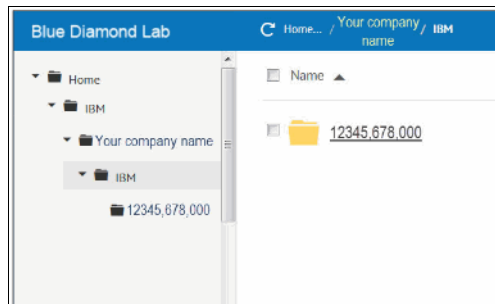

Figure 8-23 Sub-folder with PMR number
5. Create a sub-folder with the name of your PMR/Case number (Example, 12345,678,000 / TS001234567) (Figure 8-23).